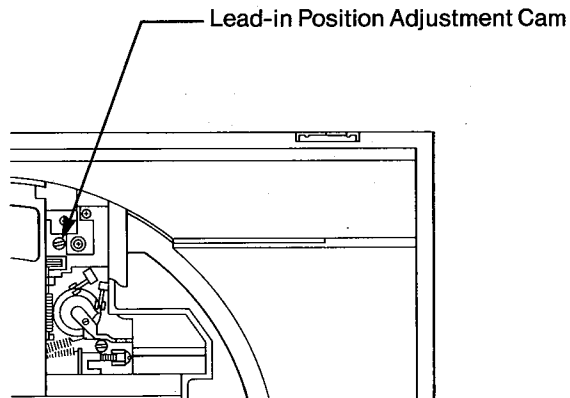

Fig. 8
- Note: If the cam is turned clockwise, the tonearm moves inward. It moves outward if the cam is turned counter-clockwise. (Fig. 8)